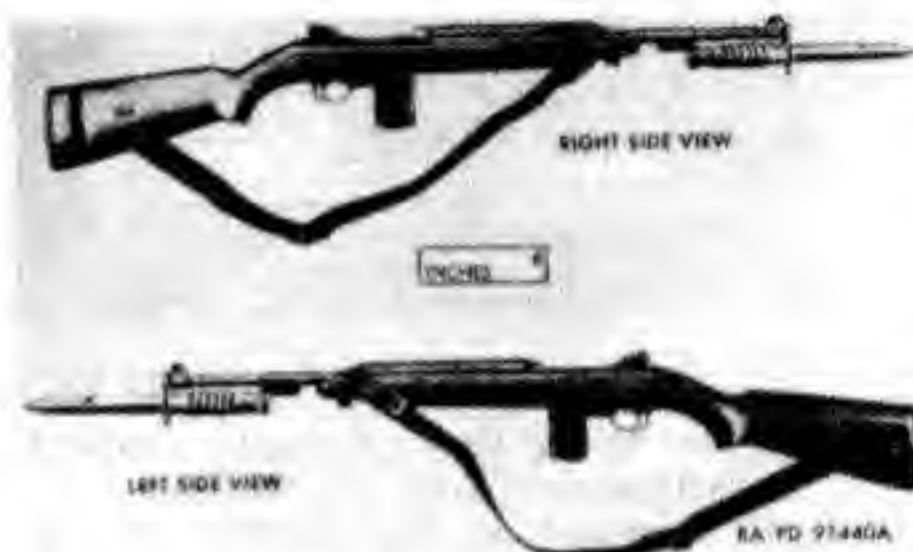

Figure 1. Cal. .30 carbine M1.
b. Cal. .30 Carbines M1 and M1A1 (Figs. 1 and 2). The only difference between the carbines M1 and M1A1 is the stock. The M1 has a one-piece wooden stock, whereas the M1A1 has a folding metal stock extension and a wooden hand grip.